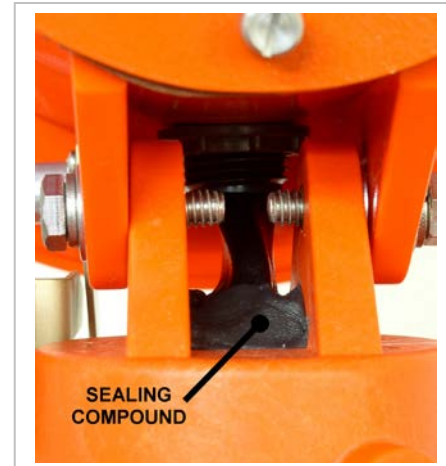

Figure 8b
- Check co-mounted flash head sealing. There should be a continuous bead of sealing compound between the housing hub and the EMT compression nut as shown in Figure 8a. Sealing compound must also be packed all around the harness sleeve as shown in Figure 8b. Only the back view is shown, but it should also be packed around the harness in front. Use Gardner-Bender DS 110, or similar, Duct Seal when repairing or replacing.